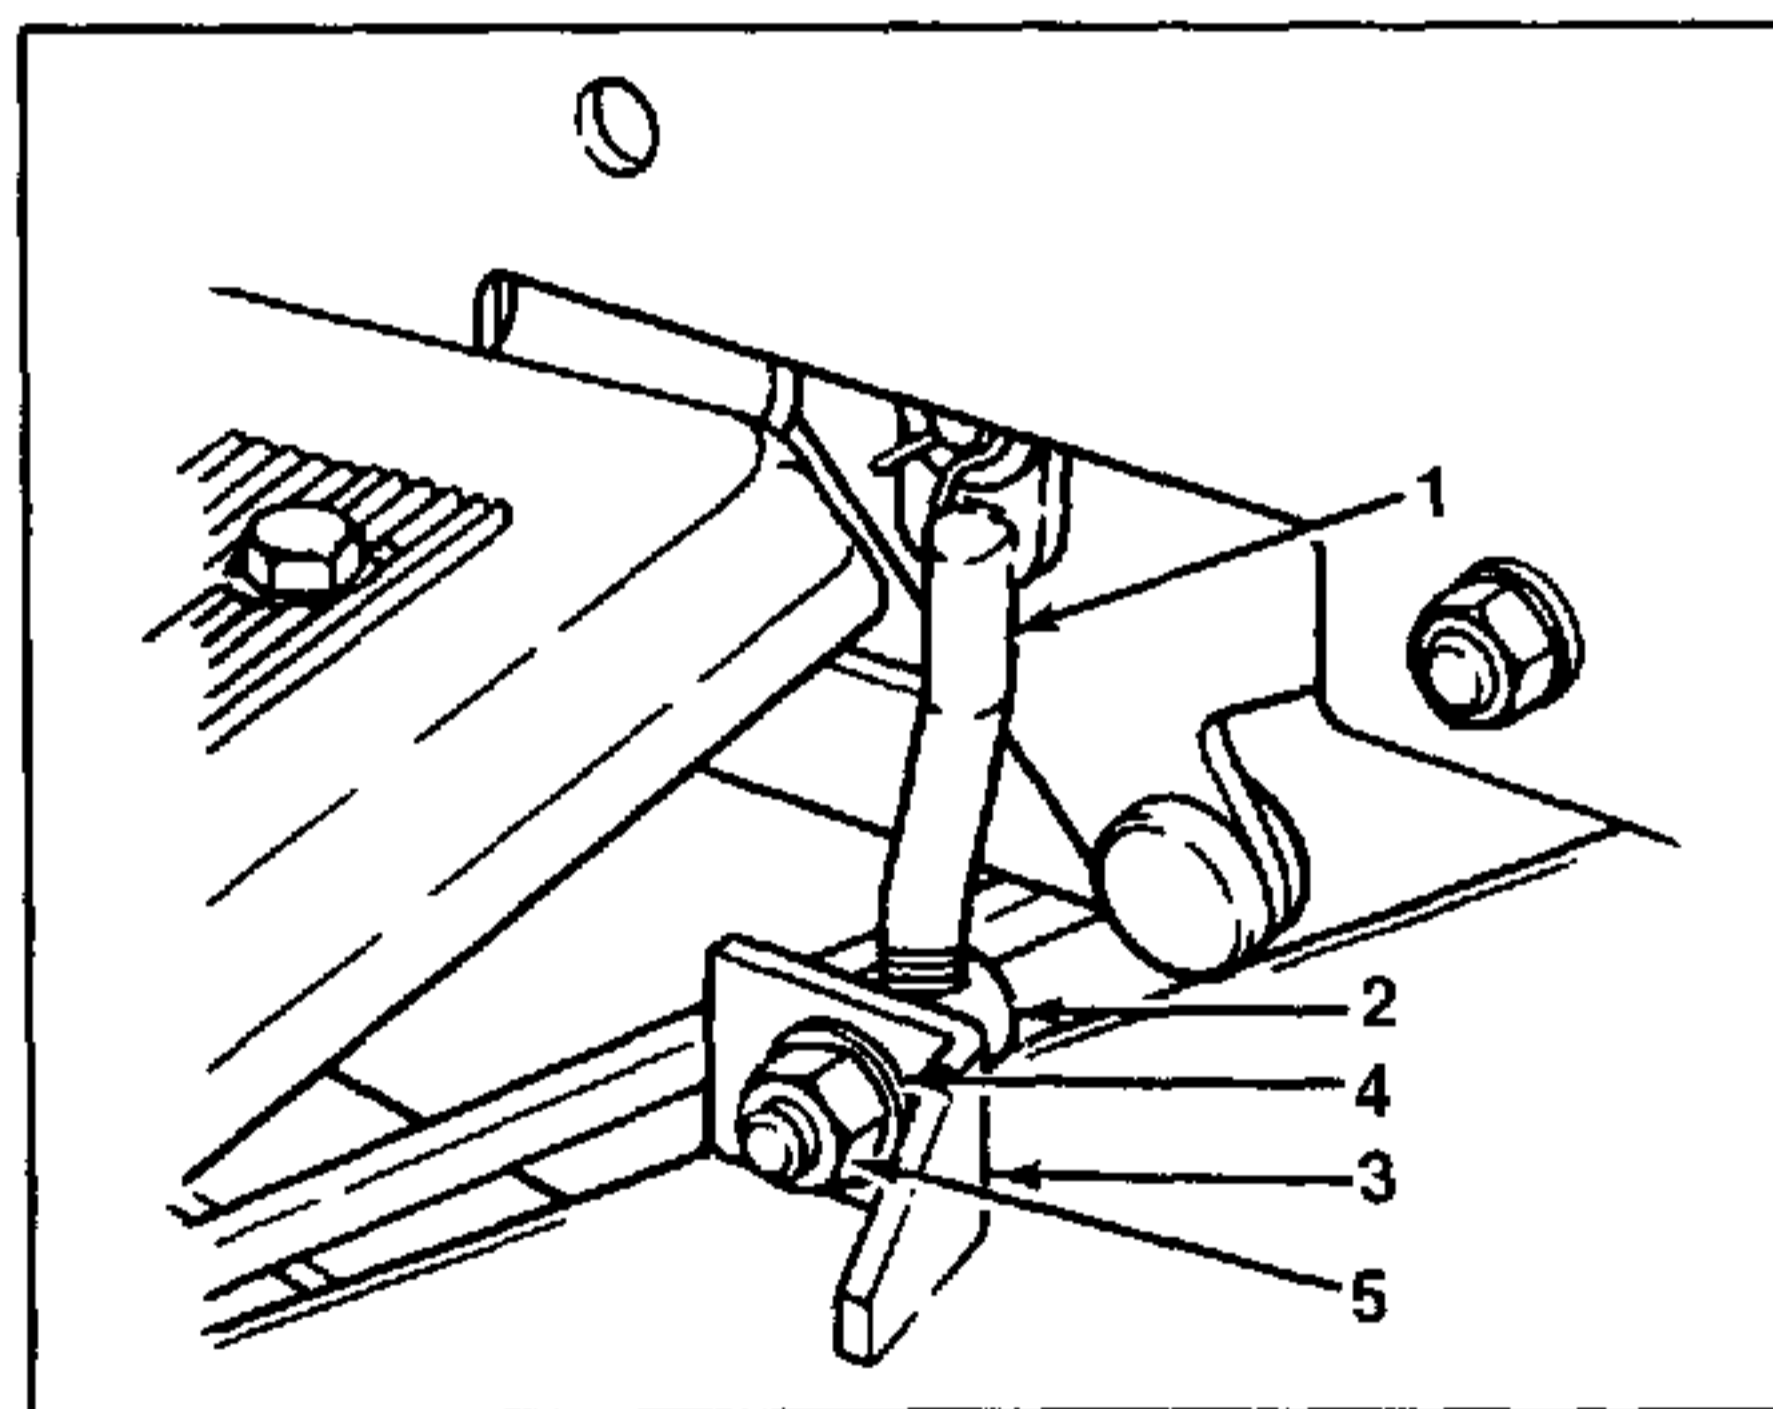

FIGURE 12.
8. Screw on and position ferrules to the front lift links. Refer to figure 12 and secure the links to the front deck brackets with flat washers and center lock nuts.